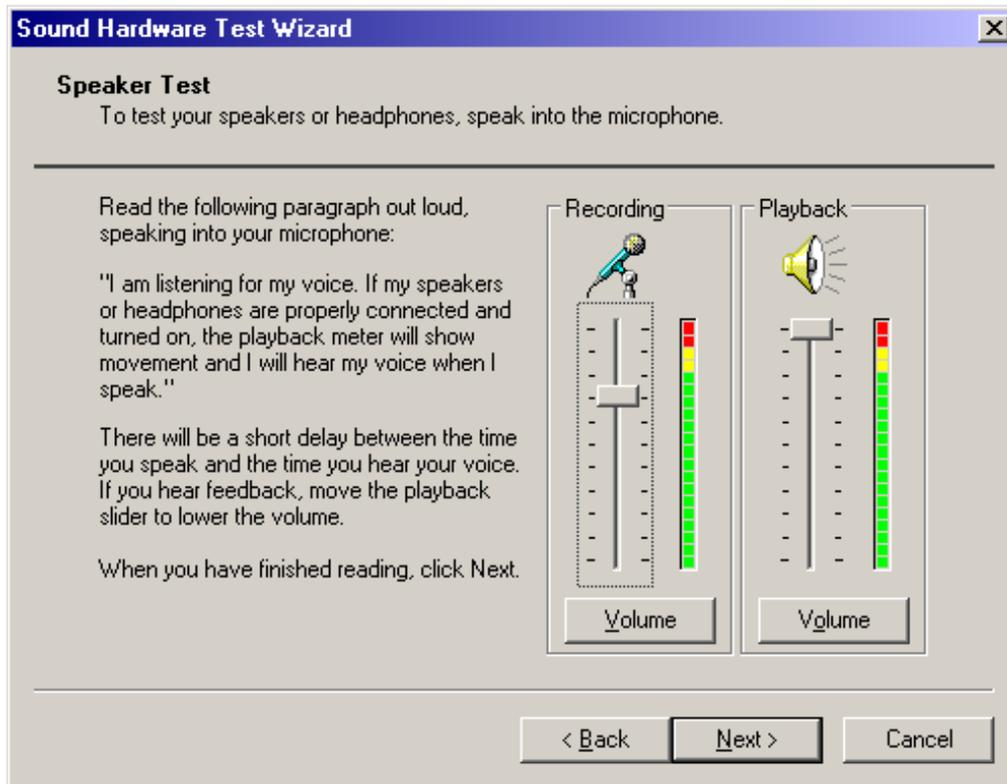

Figure 277. Speaker Test window
11. Now you will test the speakers. The window in Figure 277 will appear.